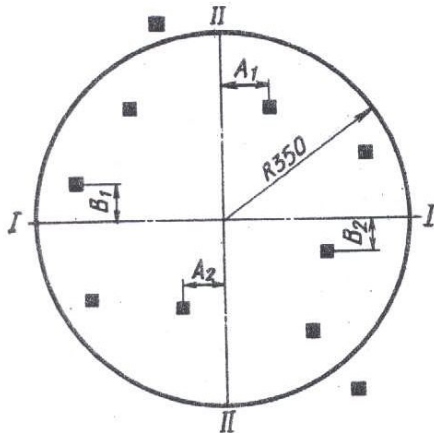

FIG. 140. DETERMINING MACHINE GUN KIBT BURST MEAN IMPACT POINT AND CLOSE PATTERN
(p) determine the mean impact point (MIP) for the burst of each machine gun on the target. To determine the mean impact point (Figs 140 and 141), do the following:
3. After a satisfactory close pattern is attained, fire two more bursts of 10 shots of each machine gun. Use the data of three bursts of each machine gun, determine the close pattern of each burst, the mean impact point of each burst and the actual mean impact point of the three bursts for each machine gun (Figs 140, 141 and 142).
**Note.** When zeroing the turret mount machine guns on the vehicle which has run more than 15,000 km, it is allowed to increase the fire accuracy circle radius for machine gun  $\Pi$ KBT to 160 mm and that for machine gun  $\Pi$ KT to 70 mm. It is also permissible in this case to increase the close pattern circle radius (R-80) for machine gun  $\Pi$ KBT to 400 mm and that for machine gun  $\Pi$ KT to 200 mm (see Figs 140, 141 and 142).